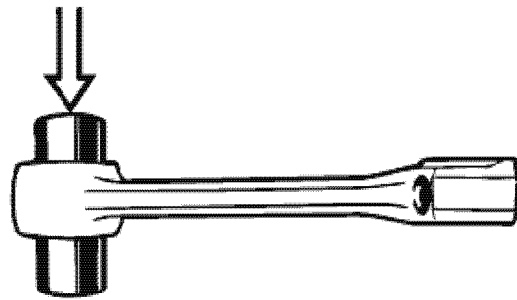

Figure 5-52
3. Check the fit of the wrist pin in the connecting rod. The wrist pin should pass through the bushing with little force and not have any significant play (**Figure 5-52**).